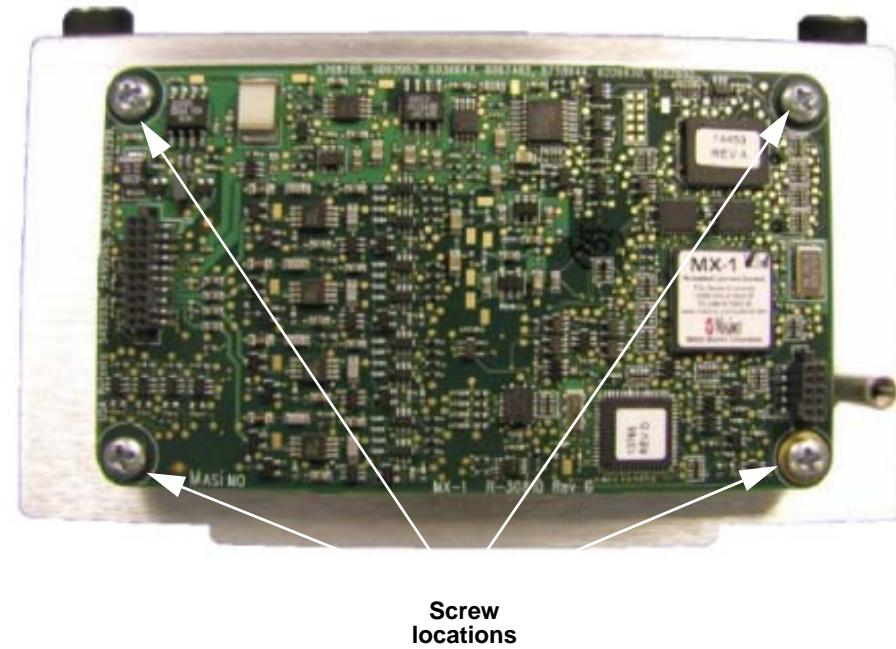

Figure 8.67—SpO₂ PCB screw locations
2. Attach the SpO2 module to the bracket using four new screws (REF 21300-006251); torque to 4.0 in-lb (see Figure 8.67 on p. 275).